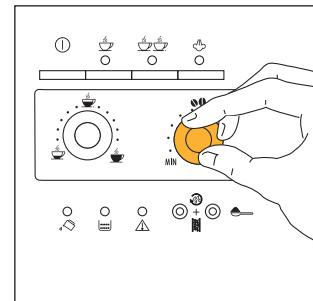
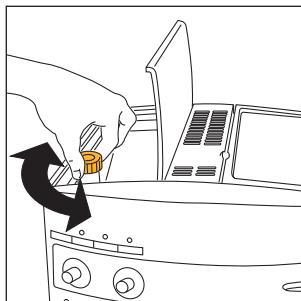

Fig.7
Fig.17
- 2) Adjust the right-hand knob (Fig. 7) to set the desired taste of the coffee. Turning the knob clockwise increases the quantity of coffee beans that the machine will grind, and thus makes the taste of the coffee stronger. When using the machine for the first time, the correct position of the knob can be found by trial and error. Make sure not to turn it too far clockwise, otherwise the coffee will be delivered too slowly (in drops), above all when preparing two cups of coffee.
**NOTE 1:** If the coffee is delivered a drop at a time or not at all, turn the grinding coarseness regulator (fig. 17) one click clockwise (see para. 6). Turn a click at a time until the coffee is delivered satisfactorily.
**NOTE 2:** If the coffee is delivered too fast and is not creamy enough, turn the right-hand knob (fig. 7) clockwise. Proceed by trial and error to find the correct position of the knob. Make sure not to turn the knob too far clockwise, otherwise the delivery may become too slow (in drops), above all when making two cups of coffee. If, after several coffees, the cream is still not satisfactory, also turn the grinding adjustment knob (Fig. 17) one click clockwise (see par. 6).
To resolve this problem, re-set the grinding coarseness on the coffee grinder by adjusting the knob (Fig. 17) one click anticlockwise (as described in chap. 6).
Nonetheless, after having made the first coffees, if delivery is too fast or too slow (in drops), the grinding coarseness must be adjusted using the knob (Fig.17) located inside the bean container. Turning one click (one number) clockwise achieves faster delivery of the coffee (without drops).